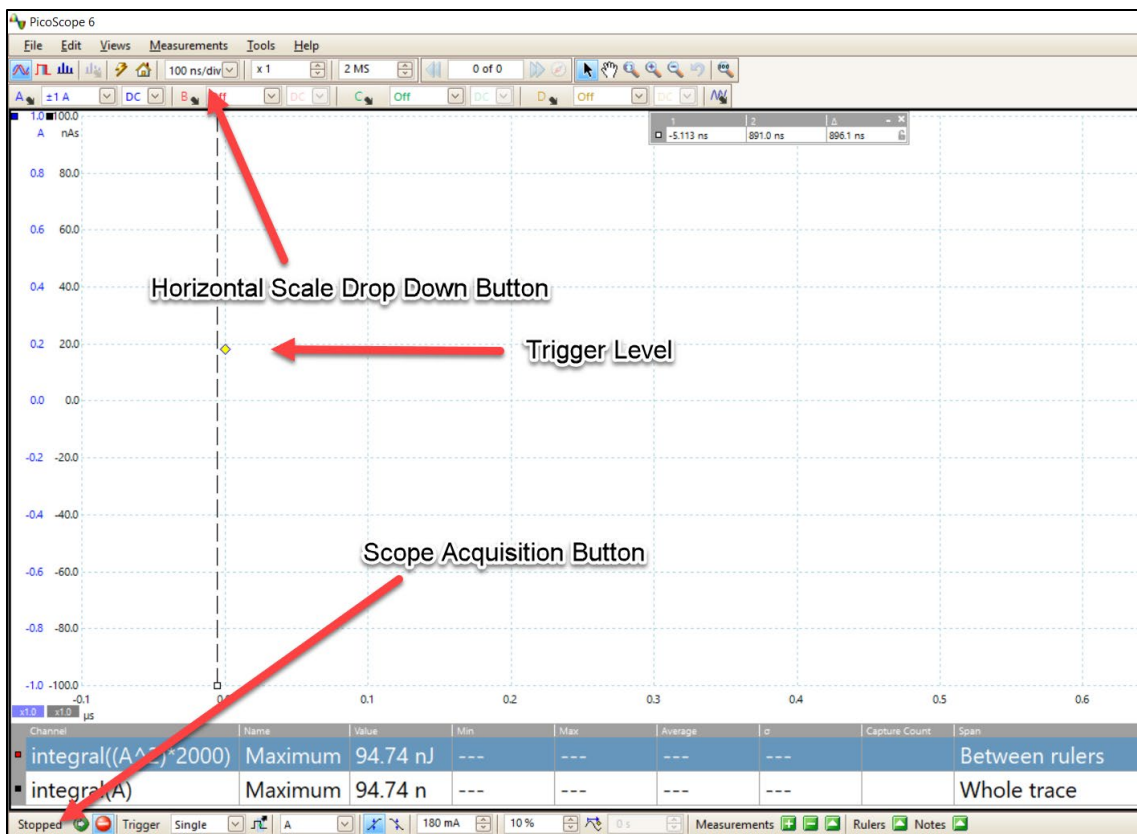

Figure 7. Screenshot of the PicoScope® 6 Software with the “Waveform Verification Setup file” open.
10. In the PicoScope® software, if needed, move the yellow trigger icon above the scope's zero line (0.2A) on the left vertical scale (Figures 7 and 8).
11. Ensure that the scope horizontal scale is set to 100 ns per division (Figures 7 and 8).
13. Click the “Stopped” button at the bottom left hand portion of the screen (PicoScope 6) or the top left hand portion of the screen (PicoScope 7) to place the scope in “**acquisition**” mode. The wording “**Stopped**” will change to “**Running**” (Figures 7 and 8).
9. Click the **“Stopped”** button at the bottom left hand portion of the screen to place the scope in **“acquisition”** mode. The wording **“Stopped”** will change to **“Running”** (Figures 7 and 8).